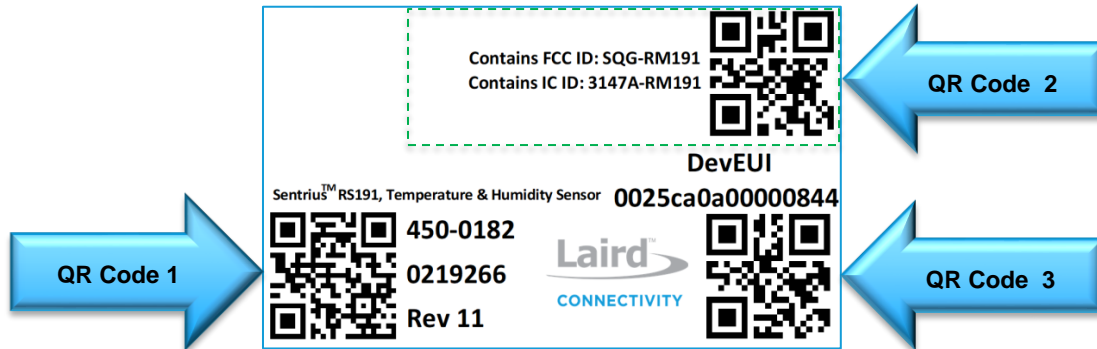

Figure 17: Back Label
- Depending on the region the sensor will be installed in, there is a unique region label that is placed over the back-sensor label which contains the region's necessary certification logos and ids (Green Box Area in Figure 17).